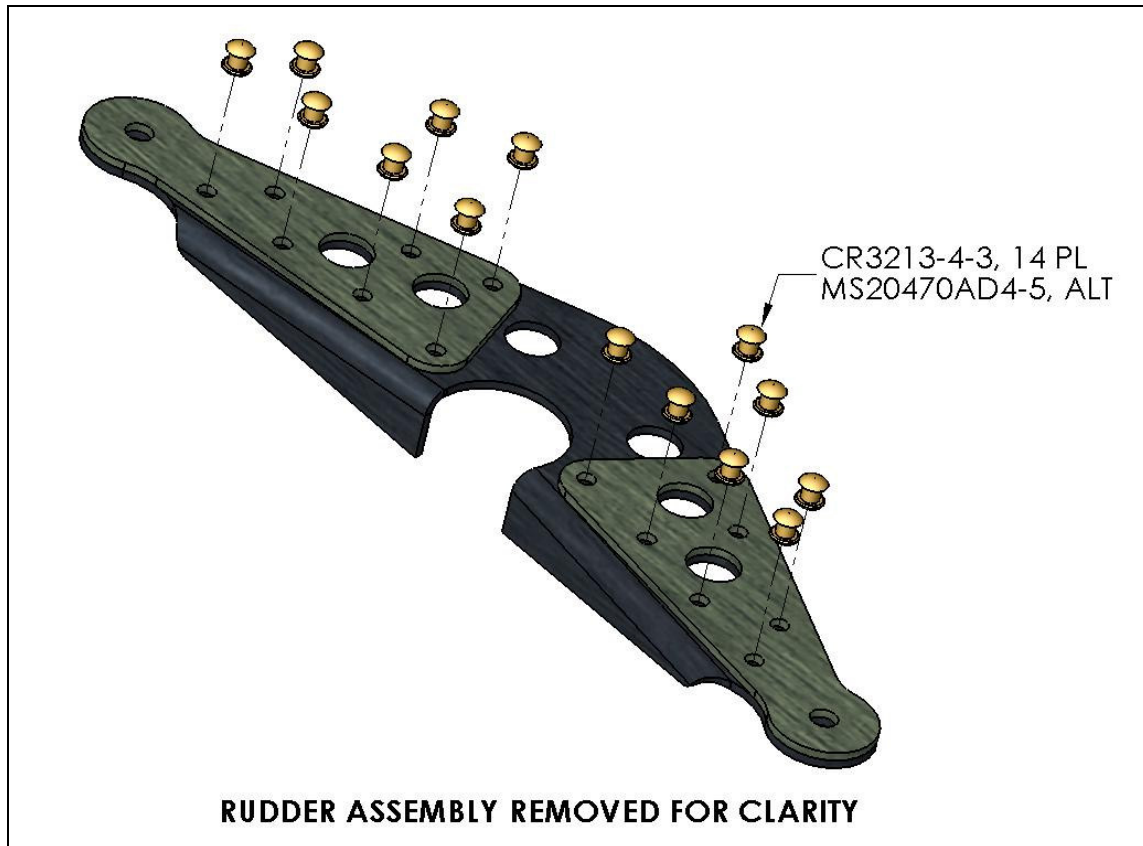

Figure 3
3. Install Cherry Max rivets CR3213-4-3 thru rudder horn doubler and rudder horn as shown in Figure 3. MS20470AD4-5 rivets may be substituted for CR3213-4-3 rivets. Rivet lengths may be adjusted as required for best fit.